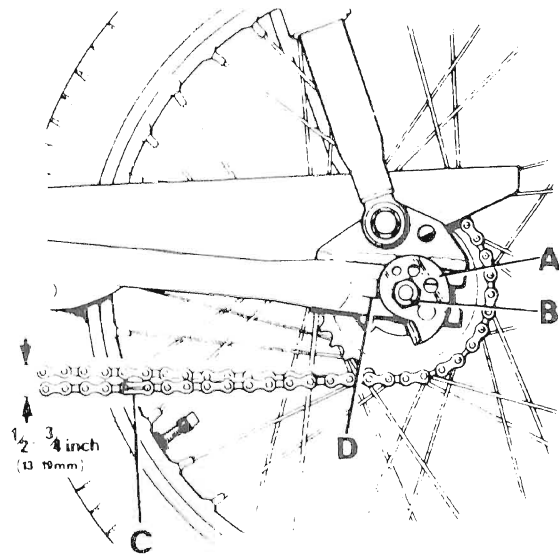

Figure 11
Support the Moped on the stand, loosen both ends of the brake cable and disconnect at the wheel end. Remove the chain split (C) Fig. 11 taking care not to let the chain run off the sprocket at the power unit. Loosen well but do not remove the axle nuts. Lean the Moped to the left, still on the stand, angle the wheel slightly in the swinging fork to disengage the brake anchor and lift the wheel rearwards and to the right, clear of the swinging arm.
Maintain the rear chain at the correct tension to prevent excess chain and sprocket wear. Chain tension should only require infrequent attention. Cam type adjusters (A) shown in Fig. 11 are used to move the wheel spindle along the fork end. To adjust, place machine on stand, loosen nuts (B) on both sides of the wheel and then rotate both adjusters (A) by the same amount until the free play, see Fig. 11, on the bottom run of the chain is between $1/2$ " and $3/4$ " at the midway point. Revolve wheel to ensure chain is adjusted at its tightest point. Ensure the adjusters rest on the abutment (D) and are in line with each other. Hold the adjusters in the correct position until the spindle nuts are fully tightened.